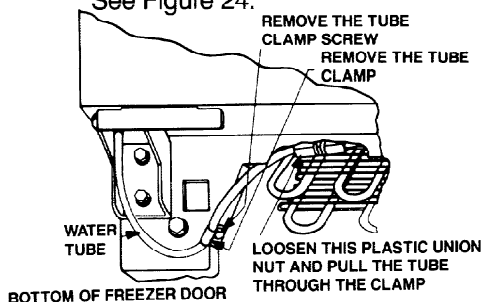

FIGURE 24
9. Disconnect freezer door bottom hinge water line by loosening the 1/4" O.D. plastic tube union nut. See Figure 24.